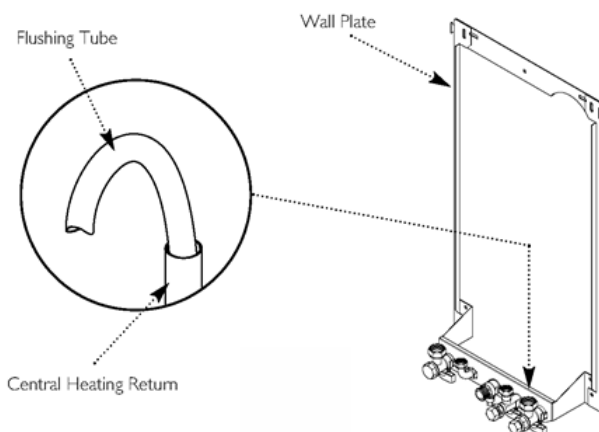

Fig. 41
1. Connect a tube to the central heating flow or return pipe (Fig.41).